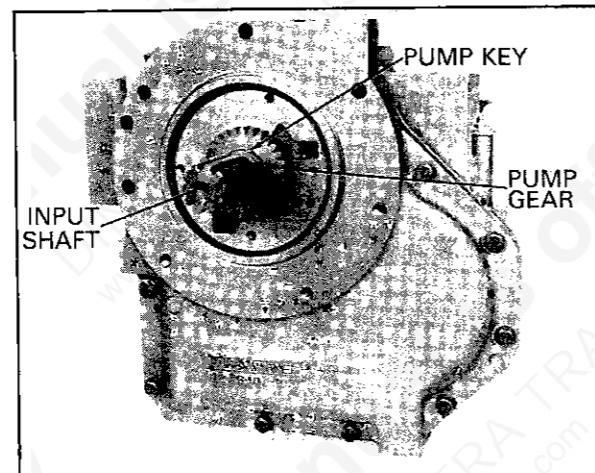

FIG. 50 PUMP DRIVE GEAR INSTALLATION
59. Install the pump drive gear over the shaft and key (Fig. 50).